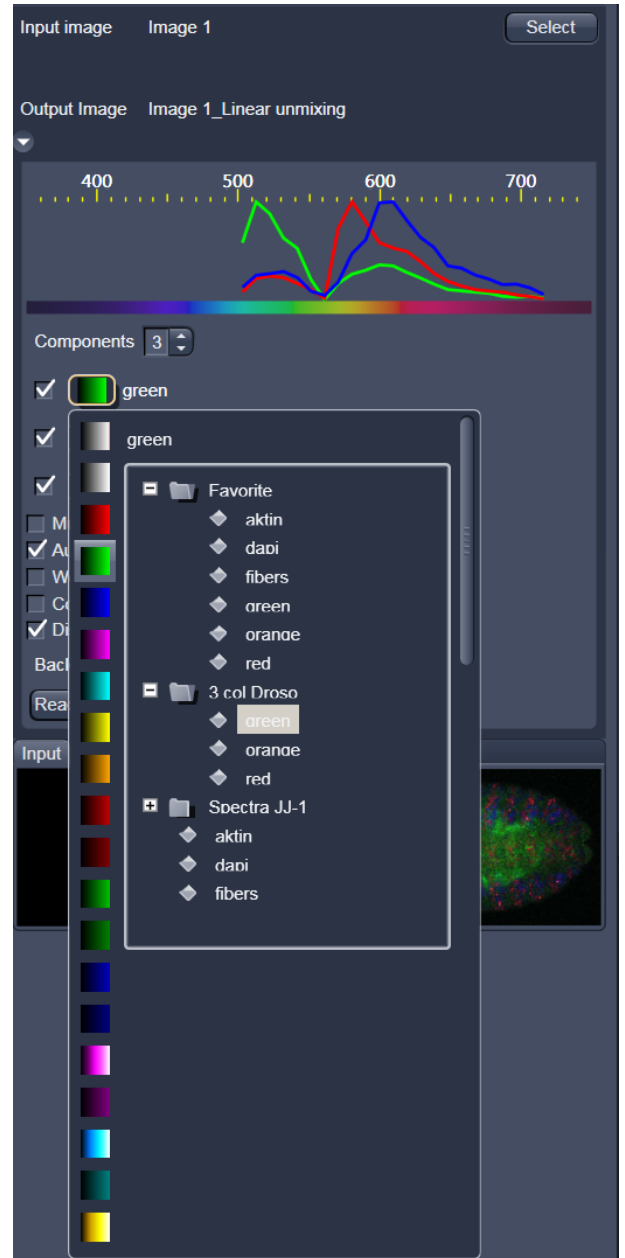

Fig. 432 Linear Unmixing: Spectra and LUT assignment
- Select the sample-specific fluorescence dye reference spectra from the **Spectra Database** (Fig. 432).
- Assign appropriate colors to the fluorescence channels by clicking on the color flag and choose from the available lookup tables (LUTs) (Fig. 432).